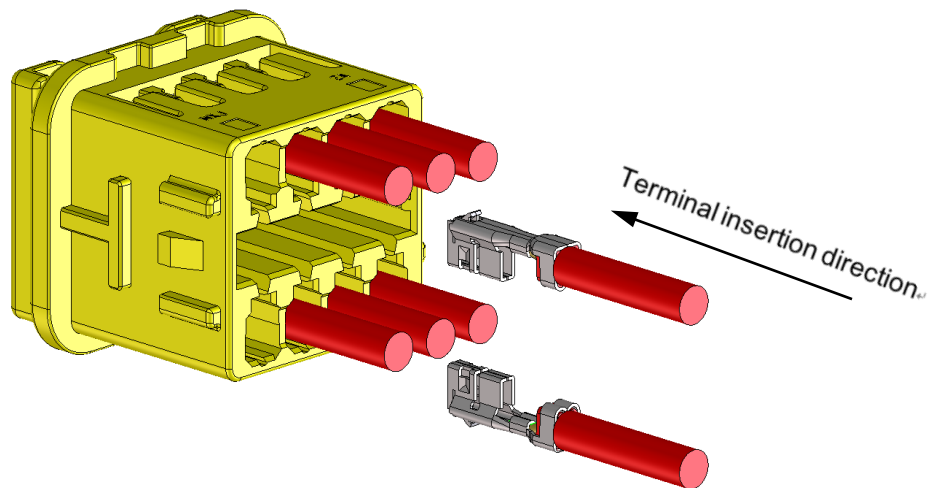

Fig. 6-1
- ③ Hold the terminal lance part toward center of receptacle housing and insert terminal slowly and straightly till the tip of terminal touches housing (with force of around 6~10N). (Fig.6-1)